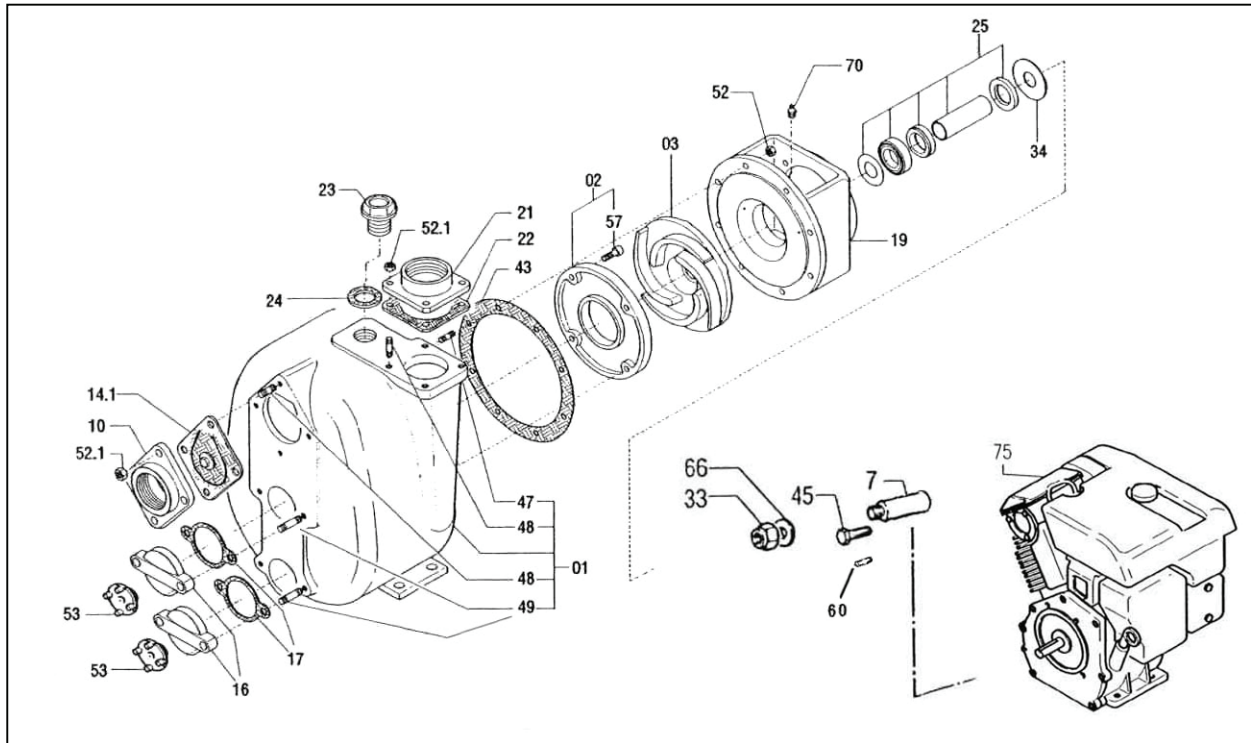
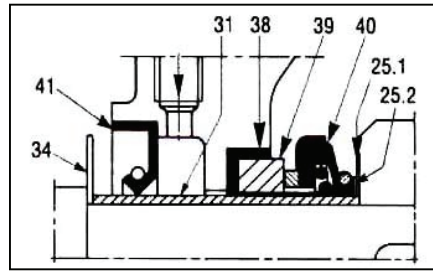

Figure 48
Figure 49
9.3.8 Mechanical Seal Assembly (figure 48, #25)
1. Drain the casing (figure 48, #01) through the drain plug (figure 48, #16).
2. Unscrew the nuts (figure 48, #52) and remove the pump casing (figure 48, #01), taking care not to damage the casing gasket (figure 48, #43).
3. Block the impeller (figure 48, #03) and unscrew the self-locking impeller nut (figure 48, #33).
4. Remove the impeller (figure 48, #03).
5. Remove the head (figure 48, #19). Remove the impeller key (figure 48, #60). The rotating part of the mechanical seal (figure 48, #25) mounted on the shaft sleeve will slide off of the shaft (figure 48, #07) together with the head (figure 48, #19).
6. Remove the stationary seat (figure 48, #25) and its gasket from the head (figure 48, #19).
7. Remove the lip seal (figure 49, #41).
8. Wash the head (figure 48, #19) with solvent to remove any residue of grease and clean the seats and the outer surface of the lip seal (figure 49, #41).
9. Mount a new lip seal (figure 49, #41) in the head (figure 48, #19). To facilitate assembly, smear a little lubricant compatible with the pumped fluid on the seat and the outer surface of the lip seal (figure 49, #41).
10. Mount the stationary portion of the mechanical seal (figure 48, #25) together with its gasket. To facilitate this operation, wet the seat on the head (figure 48, #19) and the gasket with a lubricant compatible with the pumped fluid. If necessary, use a wooden plunger or similar to push the stationary seat into its seat.
11. **Reassemble the head (figure 48, #19) taking care not to touch the shaft (figure 48, #07) with the stationary seal seat (figure 48, #25). This is a brittle material and could fracture.**
12. Slip the sleeve (figure 49, #31) and seal onto the shaft and push to overcome the slight resistance offered by the lip seal (figure 49, #41). Take care that the mechanical seal (figure 48, #25) does not slip off of the shaft sleeve.
13. Mount the seal support ring (figure 49, #34). Push this forward until it is possible to reassemble the impeller key (figure 48, #60).
14. Reassemble the impeller (figure 48, #03), the impeller washer (figure 48, #66) and tighten the impeller nut (figure 48, #33).
15. If necessary, replace the casing gasket (figure 48, #43).
16. Check the distance between the impeller (figure 48, #03) and the casing (figure 48, #01) as described in Impeller Adjustment Section 9.5.
17. Reassemble the casing gasket (figure 48, #43) after smearing both sides with grease compatible with the pumped liquid.
18. Reassemble the casing (figure 48, #01) and tighten the nuts (figure 48, #52), checking that the impeller (figure 48, #03) is free to rotate.
19. Fill the seal chamber with grease compatible with the pumped liquid by using the grease fitting (figure 48 #70).